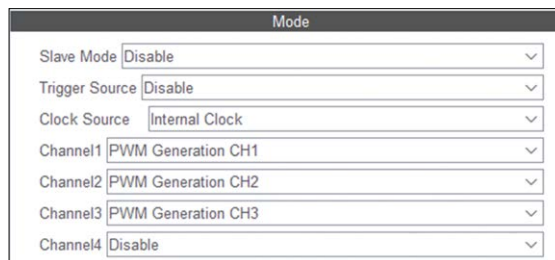

Figure 10.12: Enabling PWM on channels 1, 2, 3, on TIM2.
- Click **TIM2** under **Timers** and select **Internal Clock** as the **Clock Source**, enable **PWM Generation CH1**, **PWM Generation CH2**, and **PWM Generation CH3** as shown in Figure 10.12.